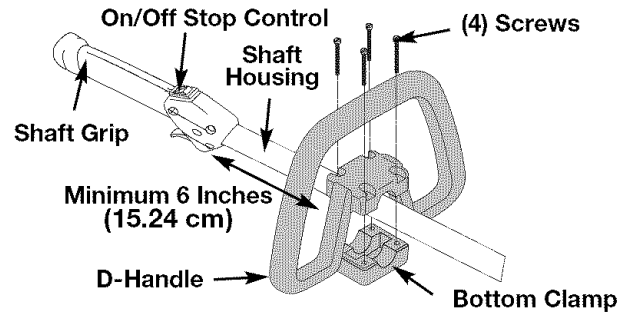

Fig. 1
**WARNING:** DO NOT ATTEMPT TO USE THIS UNIT UNTIL THE D-HANDLE HAS BEEN ROTATED INTO OPERATING POSITION (Fig. 1).
1. Loosen the screws on the D-handle (Fig. 1).